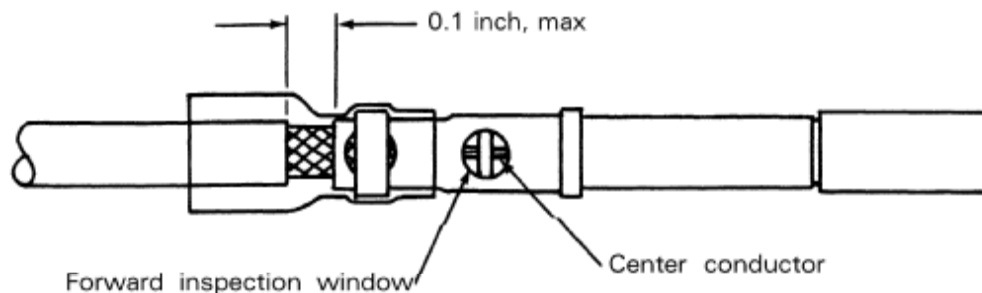

Figure 5-6. Inspection for proper cable insertion
3. Inspect for proper insertion (Figure 5-6).